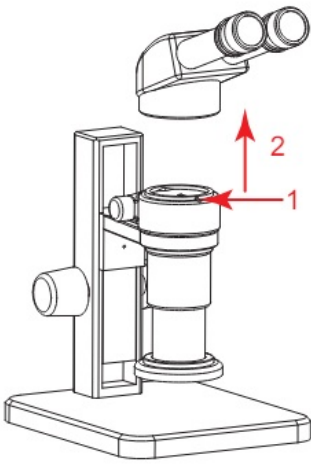

Figure 1
1. Separate the objective end of the binocular microscope from the eyepiece end, as shown in Figure 1: